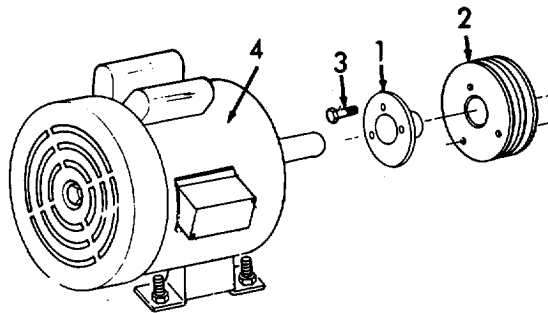

Figure 3-16. Drive Pulley, Installation.
- (1) Inspect for missing or damaged hardware.
- (2) Inspect bushing for damage.
- (3) Inspect pulley for damage.
e. Installation. (Refer to Figure 3-16).